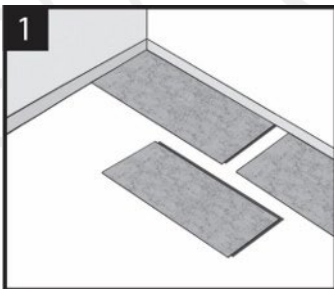

Figure 2
2. Installation should start in a corner (left hand) and proceed from the wall with the tongue facing the wall. Allow a minimum gap of 6mm for subfloor movement which can be covered by molding (Figure 2). Set 6mm in spacers to create the required expansion space.